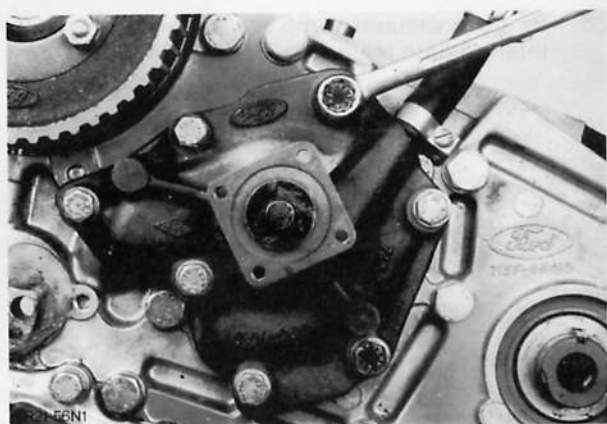

Fig. 51. Remove water pump
22. Remove water pump with by-pass hose from intermediate plate (7 bolts), Fig. 51.